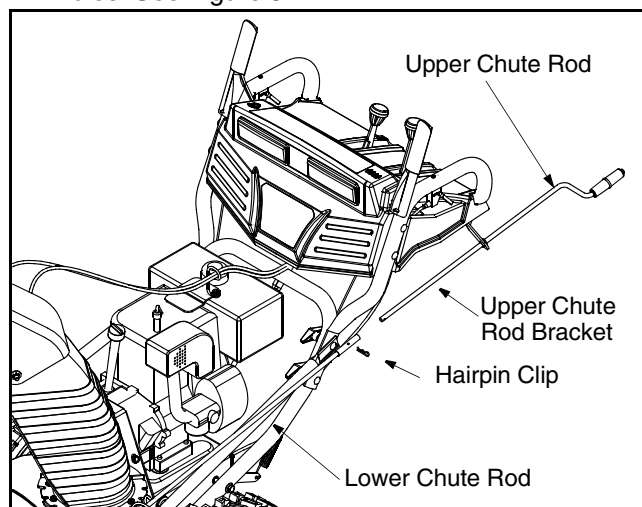

Figure 5
- Remove the hairpin clip from the upper chute rod and slide the upper chute rod through the upper chute rod bracket and into the lower chute rod. See Figure 5.
- Align the two holes on both chute rods and insert the hairpin clip removed earlier, through these holes. See Figure 5.